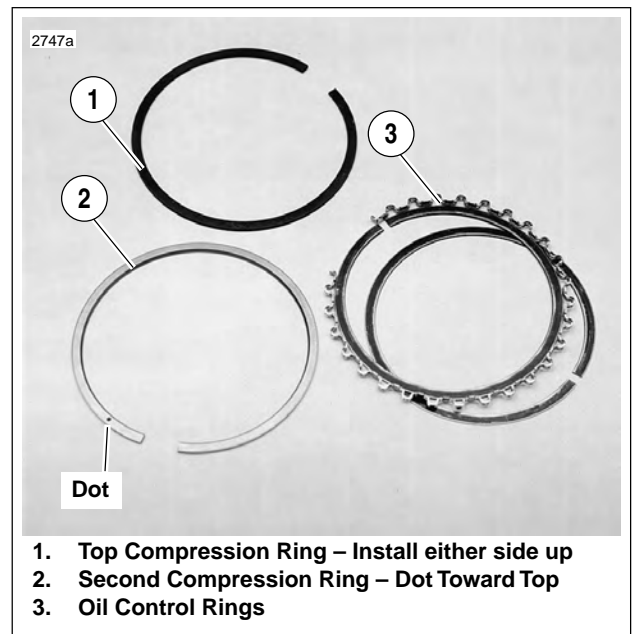

Figure 3-33. Piston Rings
See Figure 3-33. Piston rings are of two types: compression (1, 2) and oil control (3). The two compression rings are positioned in the two upper piston ring grooves. The dot on the second compression ring must face upward. Ring sets are available to fit standard and oversize pistons.